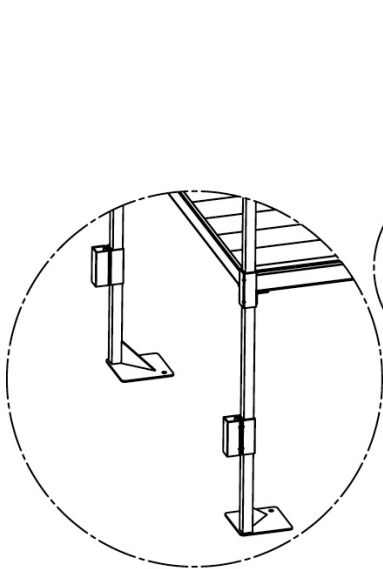

FIG. 5
- 1.6.1 On the first platform, install a dual platform connector on each of the two legs that will be adjacent to the second platform. Make sure that the pocket of the connector is oriented to the outside of the first platform in the direction of the second platform and that the setscrews are facing in a direction where they will be accessible (FIG. 5).
- 1.7.1 On the first platform, install a dual platform connector on each of the two legs that will be adjacent to the second platform. Make sure that the pocket of the connector is oriented to the outside of the first platform in the direction of the second platform and that the setscrews are facing in a direction where they will be accessible (FIG. 5). **Note:** Usually the uppermost platforms will be used to create a deck but this may not always be the case. Since the first platform is the one that sets the height for the rest, it is strongly recommended that the first platform be located at a door or other fixed point where height is critical regardless of its position in the deck.
- 1.7.5 If the platform connector is in a location that will require a guard, filler section or corner post (typically the outer edge of the deck), install the 1-1/2" square x 36" long tube provided through the platform corner pocket and connector until it aligns with the bottom of the connector and tighten all setscrews securely (FIG. 5). **Note:** Installation of platform guards and other components is described elsewhere in the manual.
- 1.7.6 In all locations where there will be no guards or filler sections install the 1-1/2" square x 11" long tube provided through the platform corner pocket and connector until it aligns with the bottom of the connector and tighten all setscrews securely (FIG. 5).